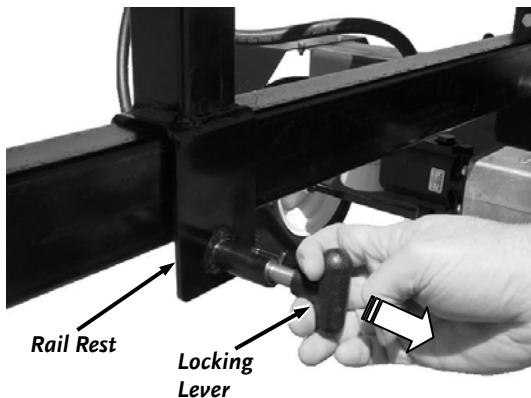

Figure 39
1. To operate the wood splitter in a vertical position, pull the spring-loaded locking lever of the rail rest and twist the locking lever either direction to lock it in the “unlocked” out position (**Figure 39**).